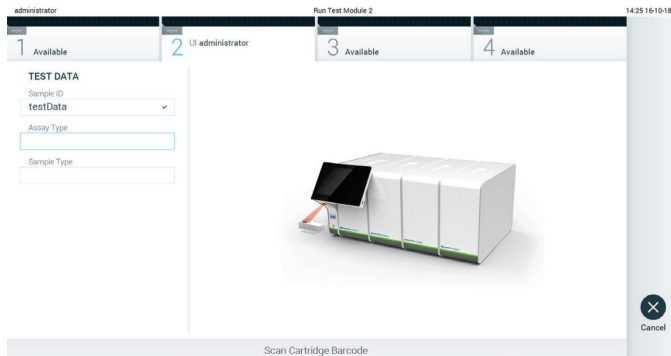

Figure 24. Scanning the QIAstat-Dx assay cartridge bar code.
3. When prompted, scan the bar code of the QIAstat-Dx assay cartridge to be used. The QIAstat-Dx Analyzer 1.0 automatically recognizes the assay to be run, based on the QIAstat-Dx assay cartridge bar code (Figure 24, next page).